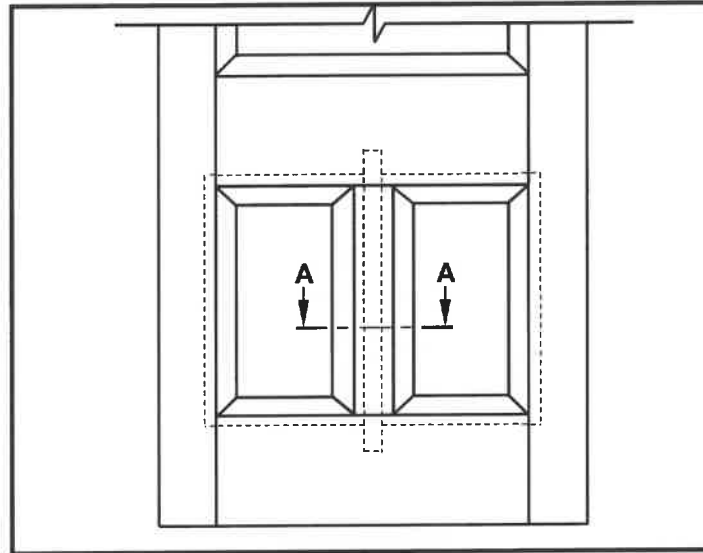

FIGURE 6.4
6.4 FIGURE 6.4 shows the bottom half of the front view of a three-panel door with a lock rail and raised and fielded panels. Section line **A-A** is also indicated on the drawing.